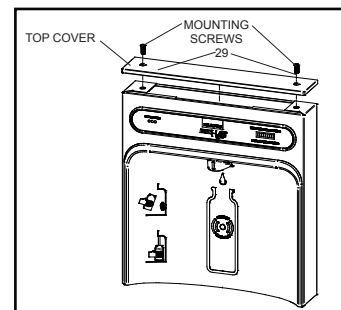

Figure 3
- Remove two (2) mounting screws with 5/32" Allen wrench holding top cover to Bottle Filler. Remove top cover. Note: do not discard mounting screws; they will be needed to reinstall top cover. (See Fig. 3)
13. Once Bottle Filler is installed on wall plate tabs, water line, wire(s) and power cord are installed properly, push top of Bottle Filler toward wall and line up top cover two (2) holes.
14. Reinstall Top Cover on Bottle Filler (See Fig. 3) with two mounting screws from step 1 above. Caution: do not over tighten screws.